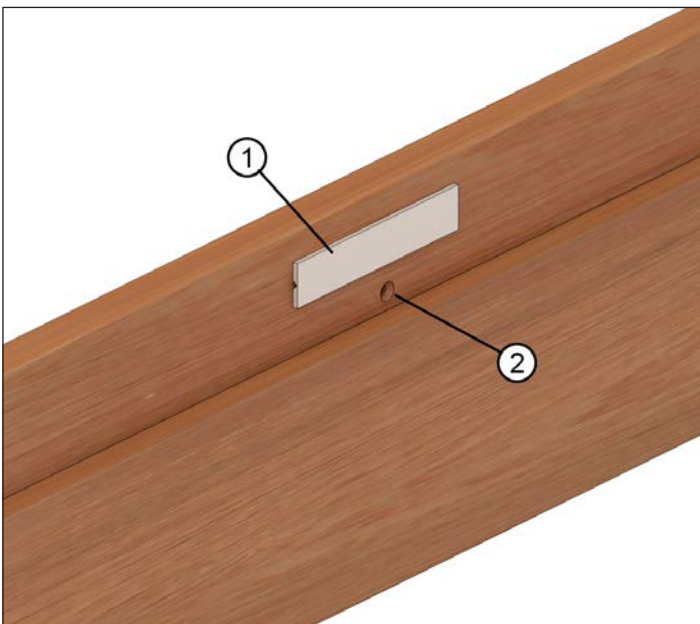

Figure 8
11. In order to maintain a consistent reveal for the sidelite, apply spacers next to each predrilled hole. See figure 8.